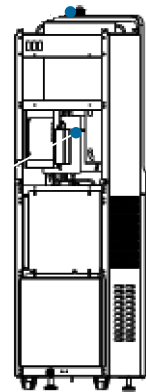

Figure 12 ·
5. Loosen the nut of the LED UV lamp from the underside with an adjustable spanner, disconnect the lamp connector and remove the old LED UV lamp (Figure 12).